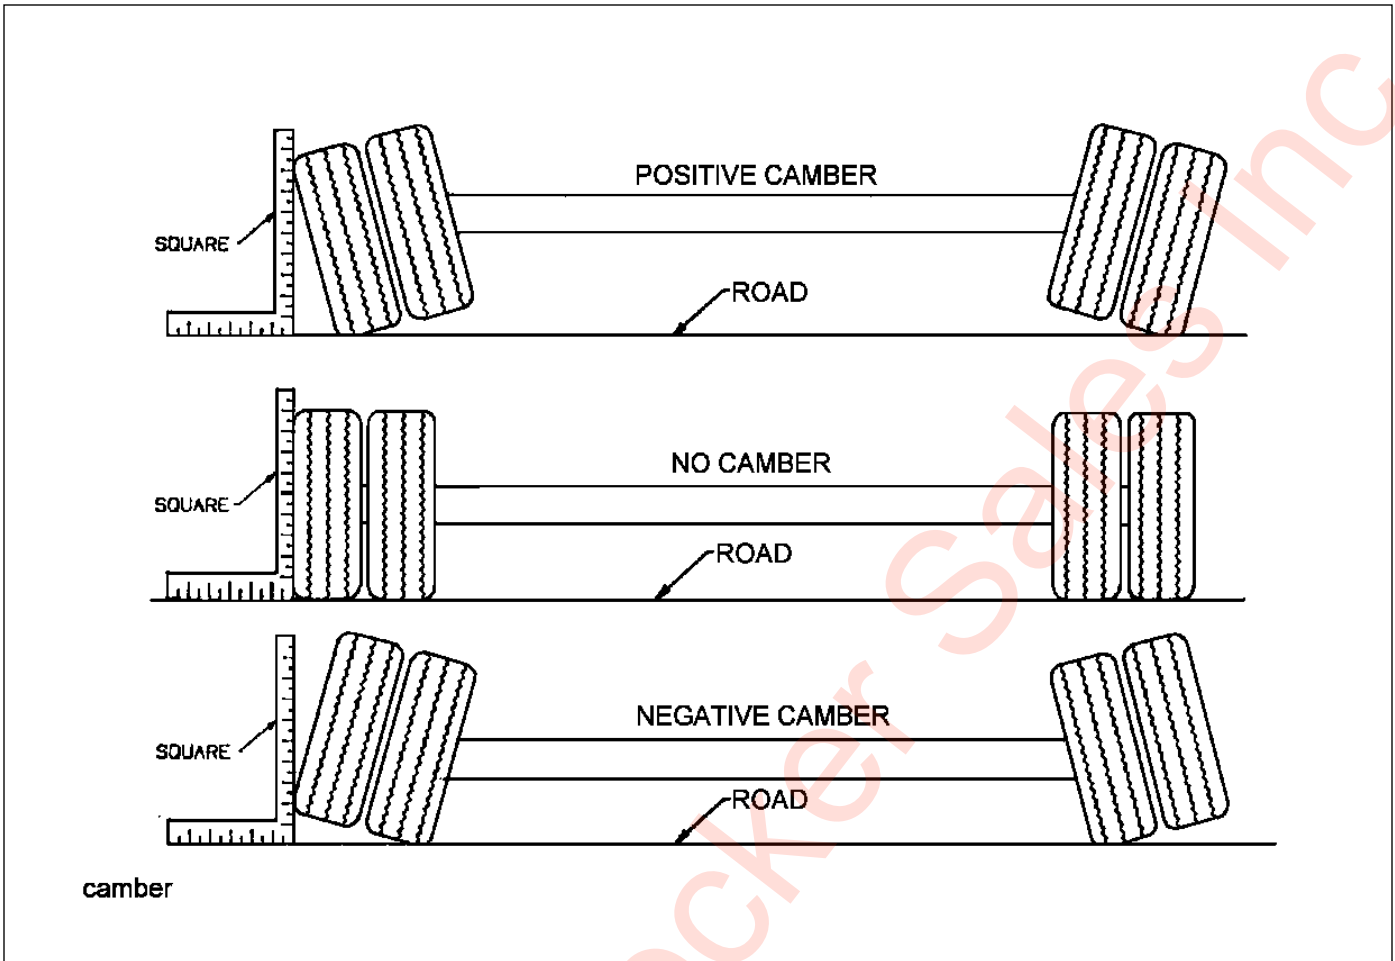

Figure 4-5: Examples of Camber
4. Follow the same procedures as in **steps 2 and 3**, except place the axle gauge above and below the axle. If gauge point gap is found, the axle has positive or negative camber. The trailer axle has no camber from the factory. If it is found to have positive or negative camber, axle replacement is necessary (See Figure 4-5 for examples of camber).